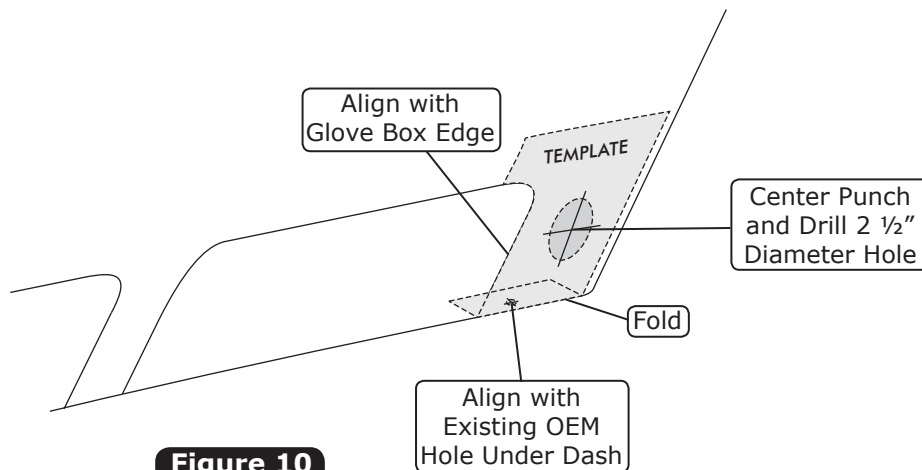

Figure 10
1. Cut out the passenger side louver template on Page 30. Place the template onto the dash, aligning the left side of the template against the glove box edge, and then folding the bottom under the dash, and aligning it with the existing OEM hole as shown in Figure 10, below.
2. Once the template is aligned correctly, use a center punch to mark the hole on the dash. Once the center of the hole is located on the dash, remove the template. Using a 2 1/2" hole saw, cut a hole in the dash for the passenger side louver (See Figure 10, below).